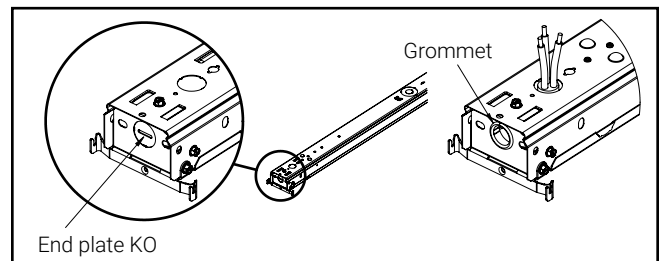

Figure 9
- Punch out the KO in end plate, insert the grommet into the KO. (Figure 9)